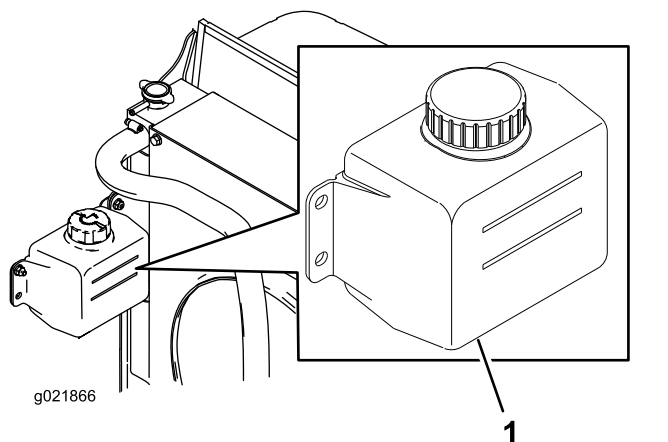

Figure 69
1. Check the level of coolant in the expansion tank (Figure 69).